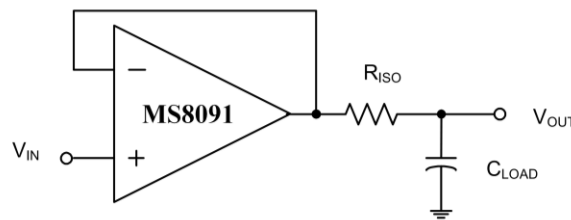

Figure 1. Series Resistor and Capacitive Load
The MS809x optimizes not only driving capacitive load, but also bandwidth and rate. Output capacitance would add a pole in the amplifier’s feedback loop, which would result in excessive peak and possible oscillation. If there has requirement for driving capacitance in application, two schemes can be considered: (1) A small resistor is in series with amplifier’s output and capacitive load . (2) Add overall noise gain to reduce the bandwidth of amplifier’s feedback loop. Figure 1 shows a follower of unity gain using the series resistor way. The resistor separates the output from the capacitance, and it is more important that creating a zero in the feedback loop, which compensates for the pole of output capacitance.